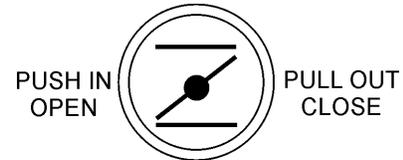

Figure 16. Choke Knob
1. Place the choke knob (Figure 16) in the **CLOSED** position if starting a cold engine.
2. Place the choke knob (Figure 16) in the **OPEN** position if starting a warm engine or if the temperature is warm.
5. If the engine has started, slowly return the choke knob (Figure 16) to the **OPEN** position. If the engine has not started repeat steps 1 through 7.